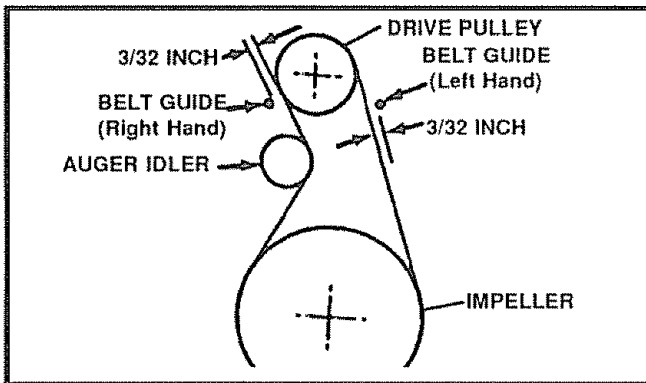

FIG. 28
- Measure the distance between the belt guides and the belt (See Fig. 28). The distance should be  $\frac{3}{32}$ " for each guide.